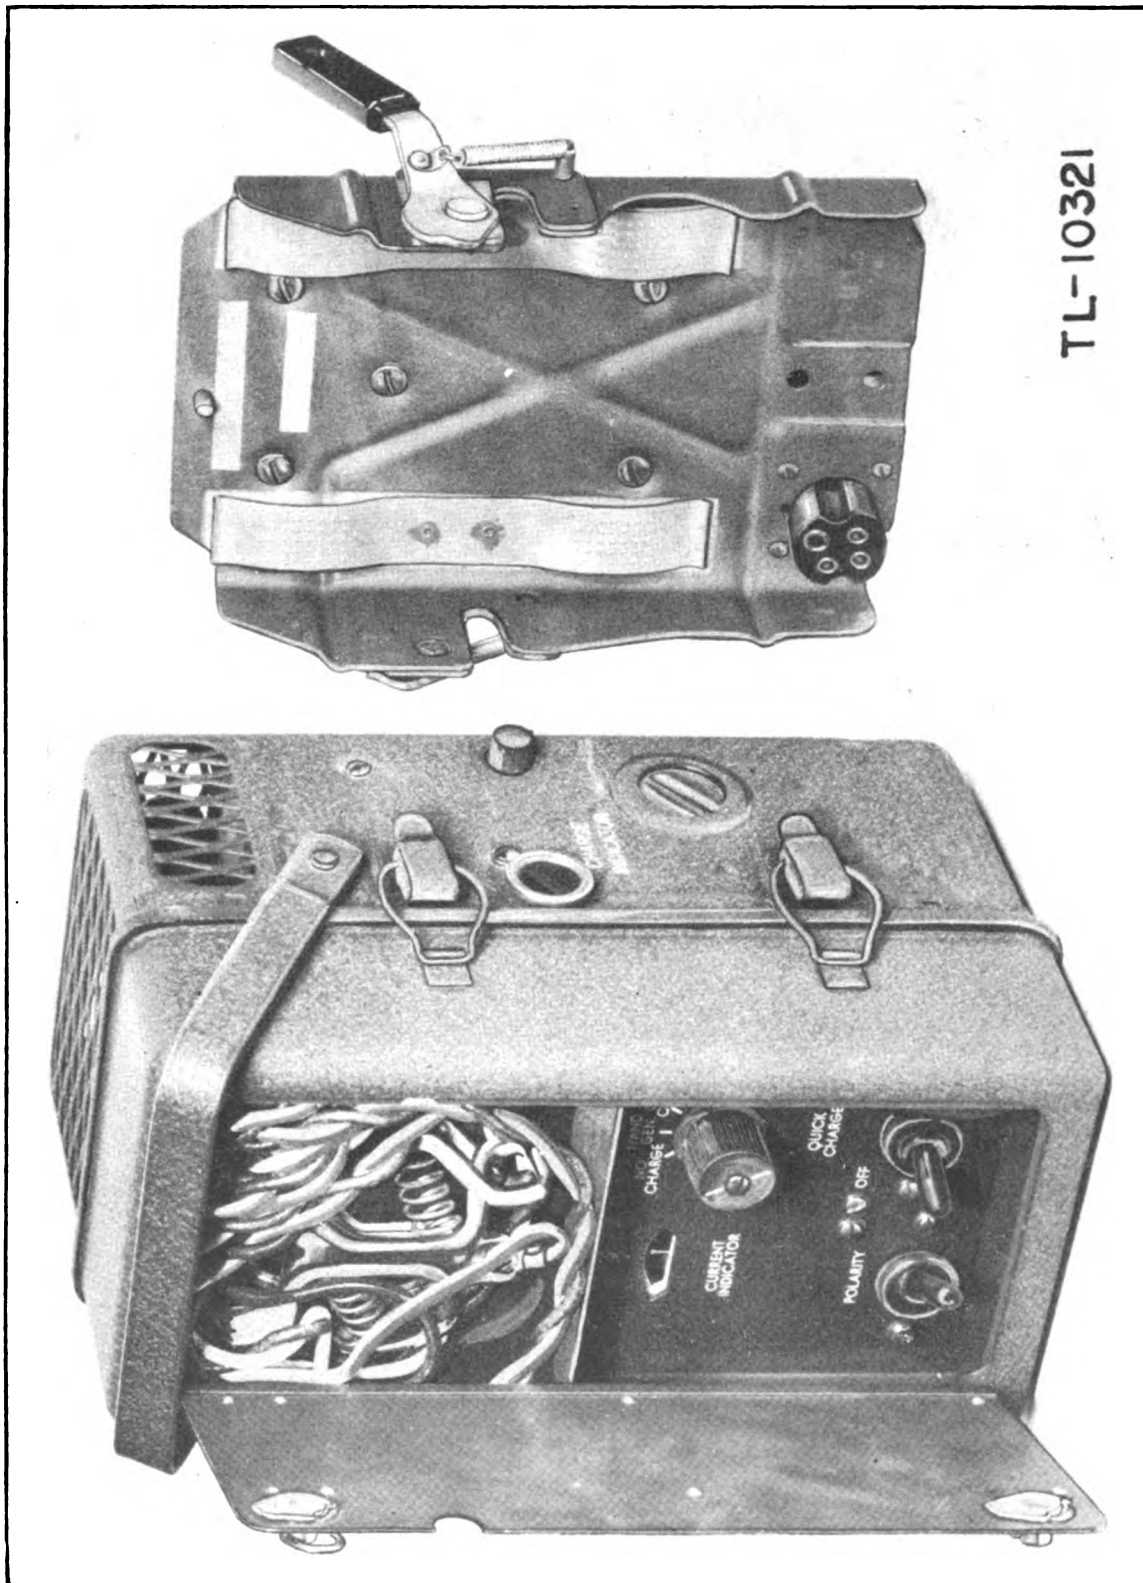

Figure 30—Vibrator Power Unit PP-39, TRC-2 and Mounting FT-338-A
- b. Clamp vibrator unit securely to mounting bracket on Mounting FT-338-A (Figs. 30 and 31).